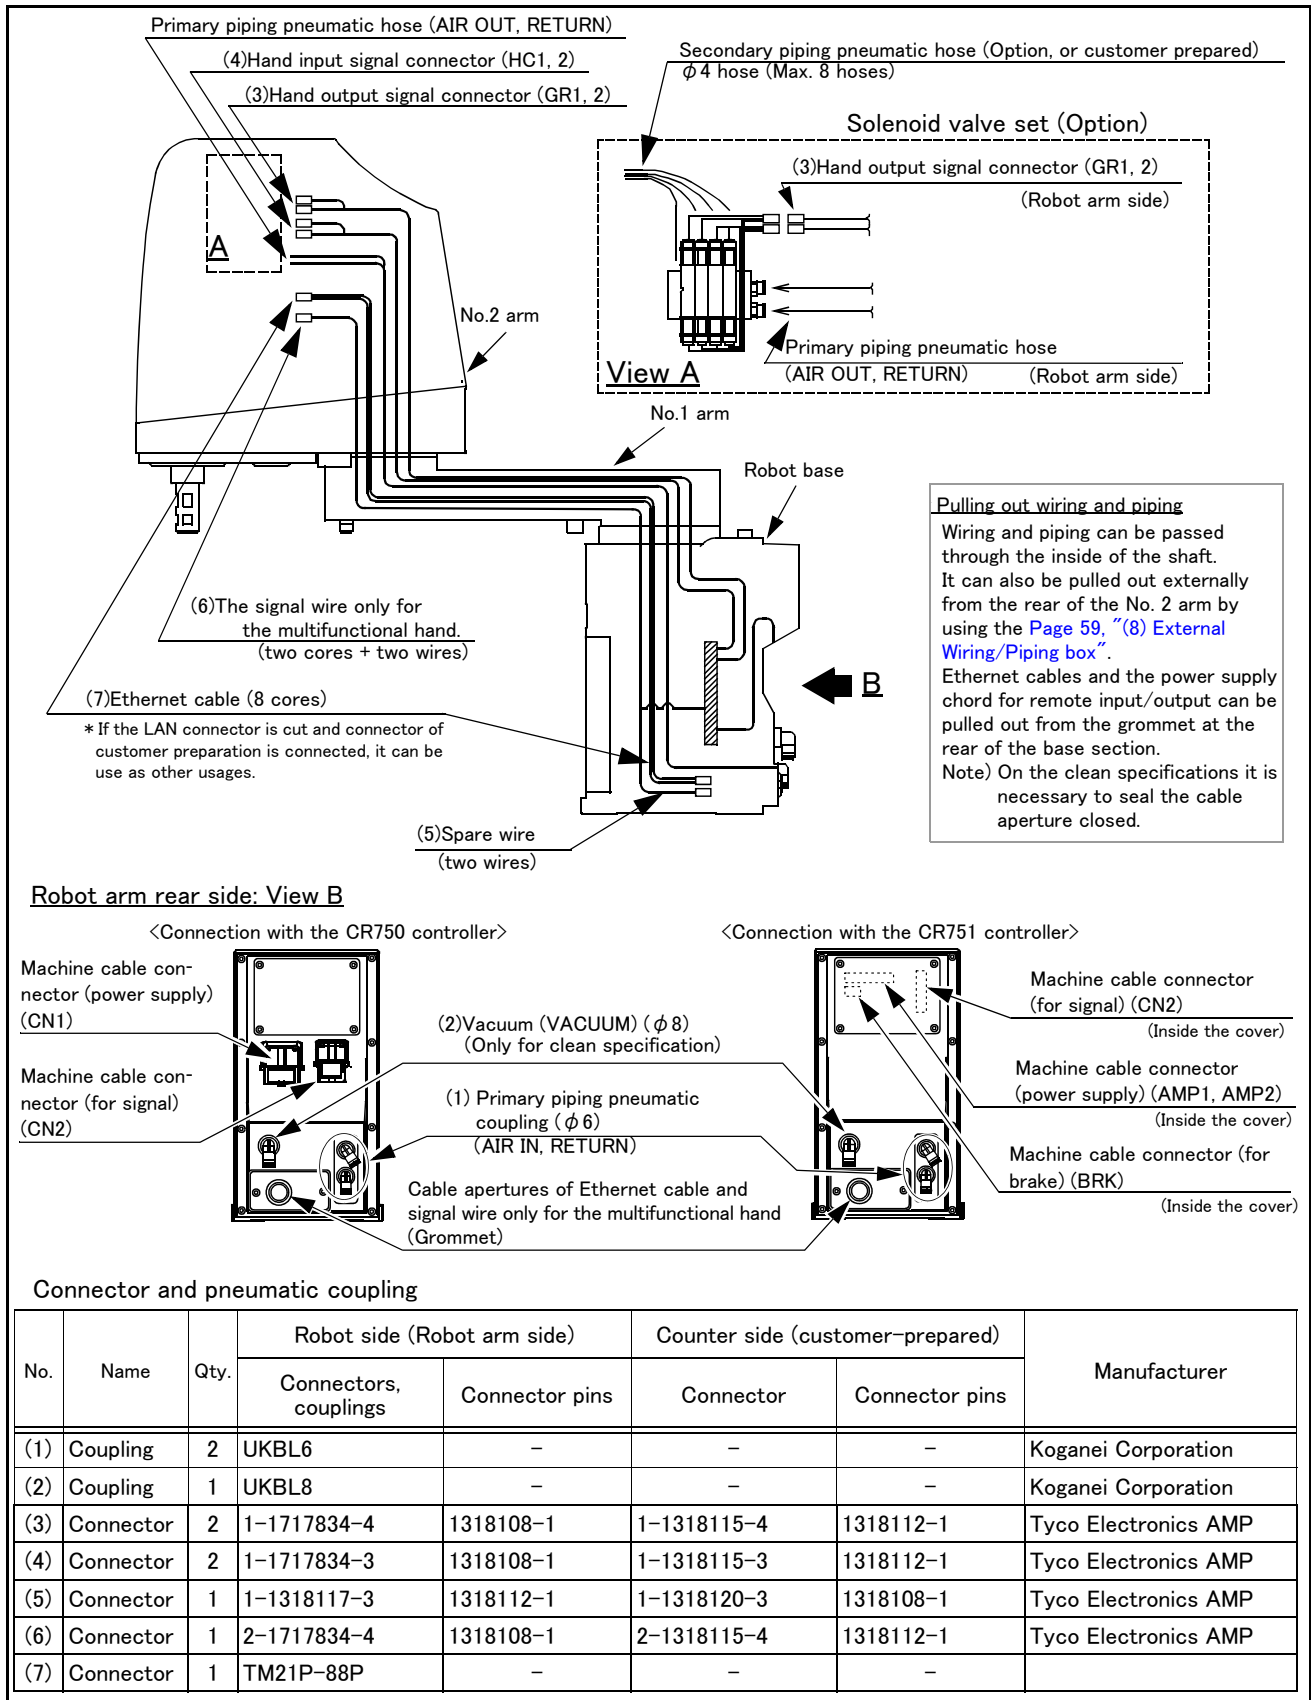

Fig.2-23 : Wiring and piping for hand
- 1) A $\phi 8$ VACUUM coupling is provided in the base section of the robot arm for vacuum inside the robot arm. (Refer to Fig. 2-23) When using the robot, connect this coupling with the vacuum generating valve (Refer to Table 2-8) and vacuum pump (furnished by the customer).